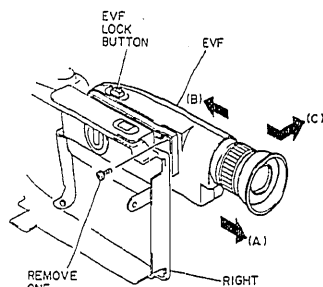

Fig. 2-5
- 1) While push the EVF lock button, move the EVF in the direction of arrow (A). (See Fig. 2-5)
- 2) Remove one (1) screw holding the EVF.
- 3) While push the EVF lock button, move the EVF in the direction of arrow (B).
- 4) While push the EVF lock button, remove the EVF in the direction of arrow (C).